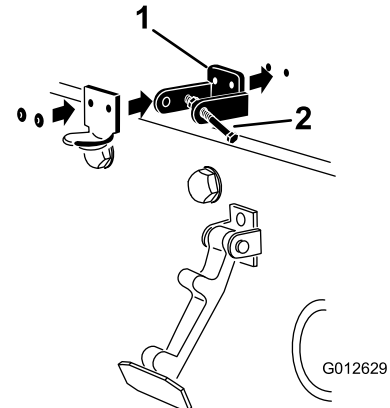

Figure 35
6. Rivet the brackets and the washers to the hood (Figure 35).